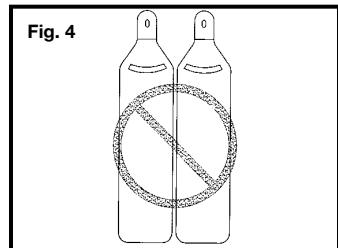

Fig. 4
6. Never use oxygen or other bottled gases. Explosion will occur. Never use combustible gases or any other reactive gas as a power source for this tool: explosion and serious personal injury will result. Fig. 4.